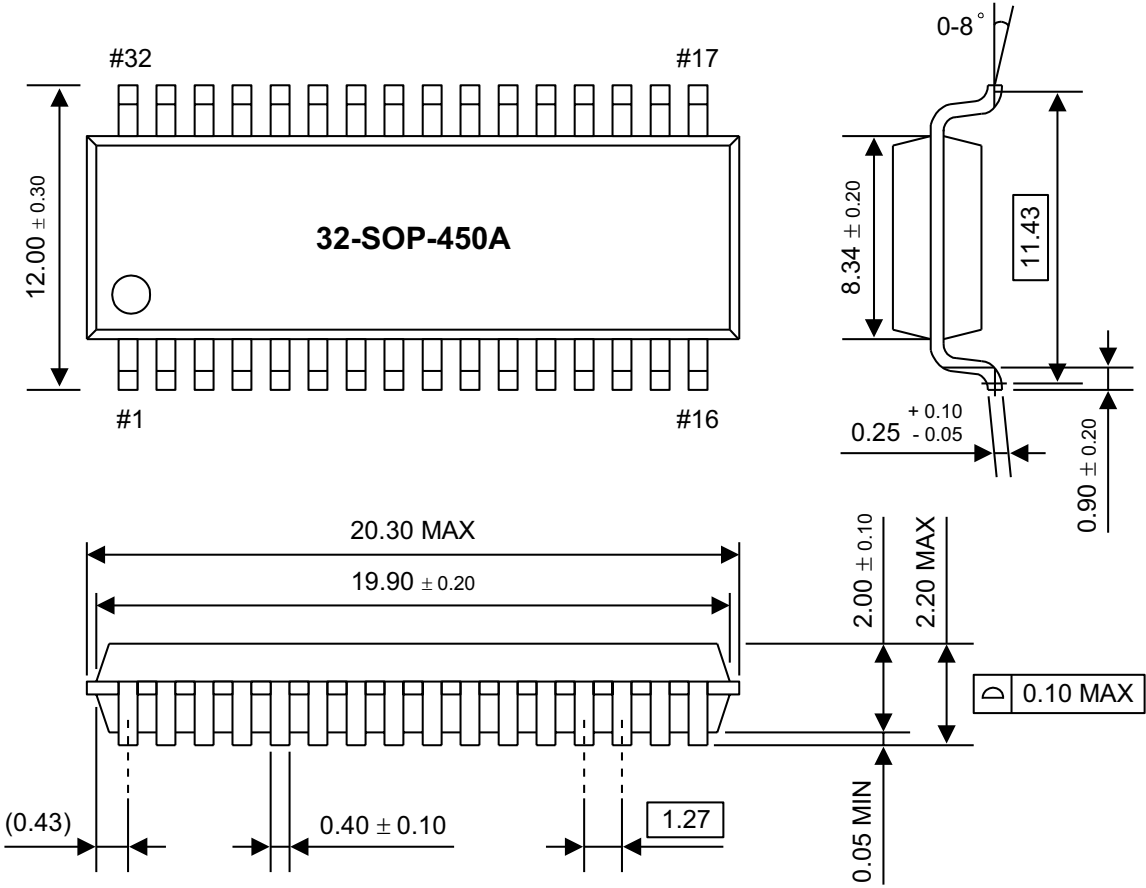

Figure 98. 32-Pin SOP Package Dimension
The S3F80PB microcontroller is currently available in a 32-pin SOP, 32-pin QFN, 44-pin QFP, and 44-pin QFN packages shown in Figures 98 through 101, respectively.
► **Note:** In Figure 98, dimensions shown are in millimeters.